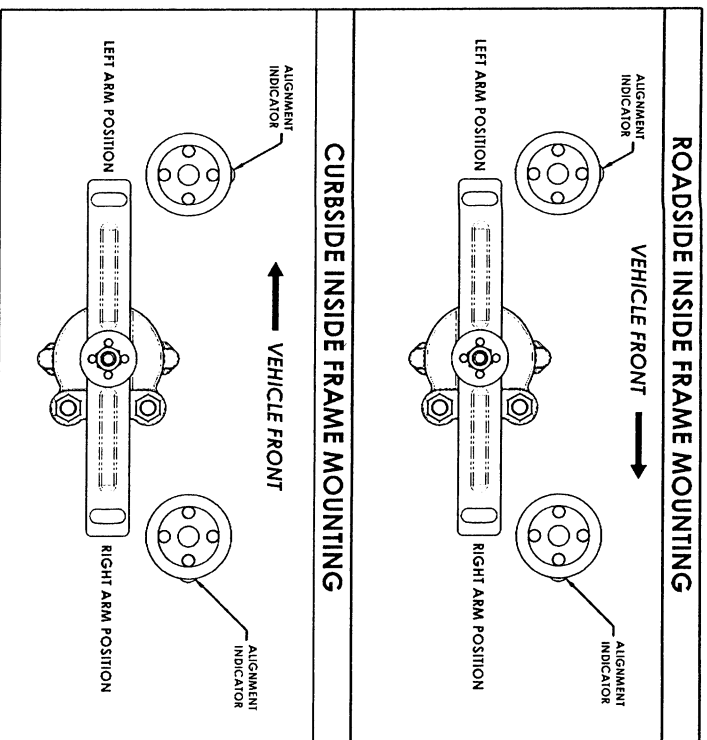

Figure 3
Fasten the control arm to the interface cap and shaft making sure the alignment identifier dimple on the interface cap is in the proper position for your valve orientation. Refer to **Fig. 3 & 4** for proper alignment identifier orientation. Use the provided nylok nut and tighten to 25-30 in.-lbs. **DO NOT** over torque this nylok nut; it could result in a damaged or broken shaft. If adjustable control arm is used, assemble with provided hardware. Torque the adjustment bolt to 25-30in lbs.
- d.) Determine if the control arm and alignment identifier dimple on the interface cap are in the proper orientation. Refer to **Fig. 3 & 4**.